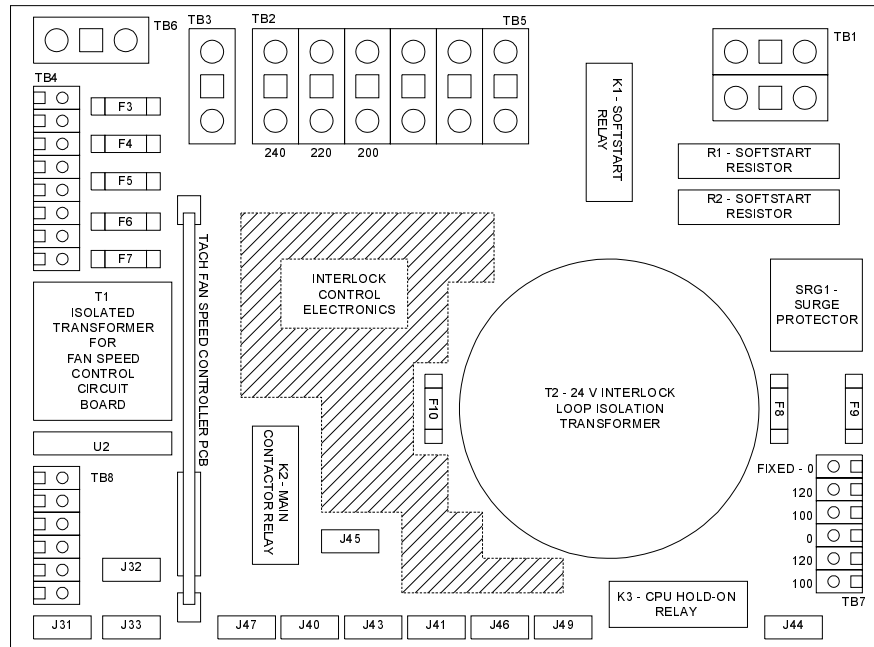

FIG. 2.2 AC CONTROL PCB
2. Locate the AC Control PCB (behind the right side panel) and identify TB5 & TB2 (top of the PCB). Refer to Fig. 2.2.